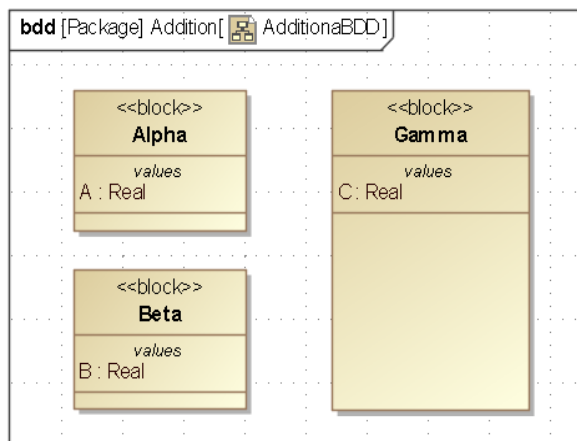

Figure 2.7 Block Definition Diagram
- c. Drag Alpha, Beta, and Gamma from Containment window to BDD (Figure 2.7)